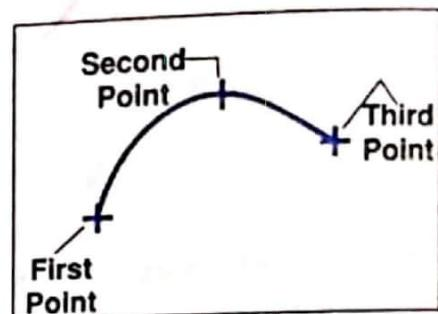

Fig. 19.16 An arc drawn through three points using arc command
- (iv) Select an end point. See Fig. 19.16.